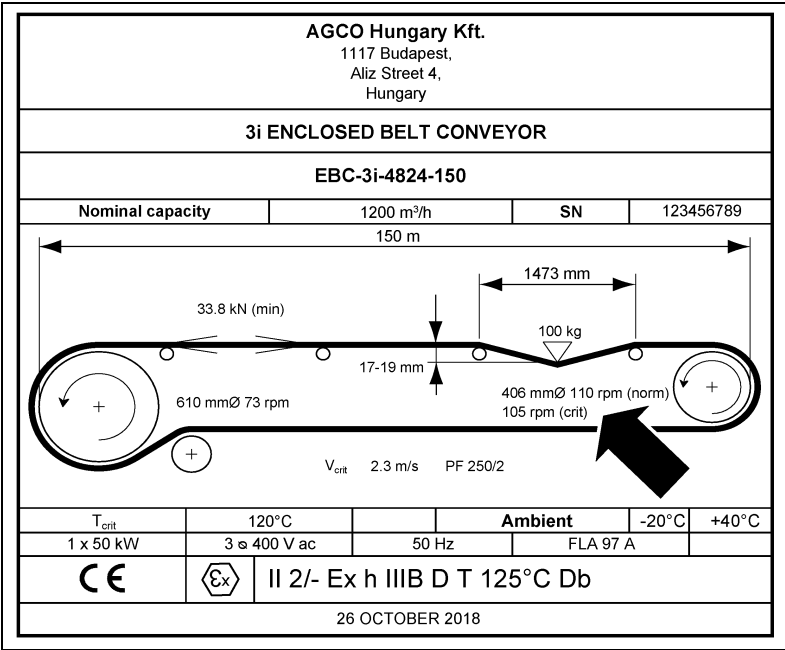

Figure 2C
3. Slipping belts may result in frictional heating. This is avoided by maintaining the correct tension, and by monitoring the non-driven pulley speed, according to the value S_{crit} given on the rating plate. In the event the pulley speed drops below this value, the conveyor should be stopped. (See Figure 2C on Page 16.)